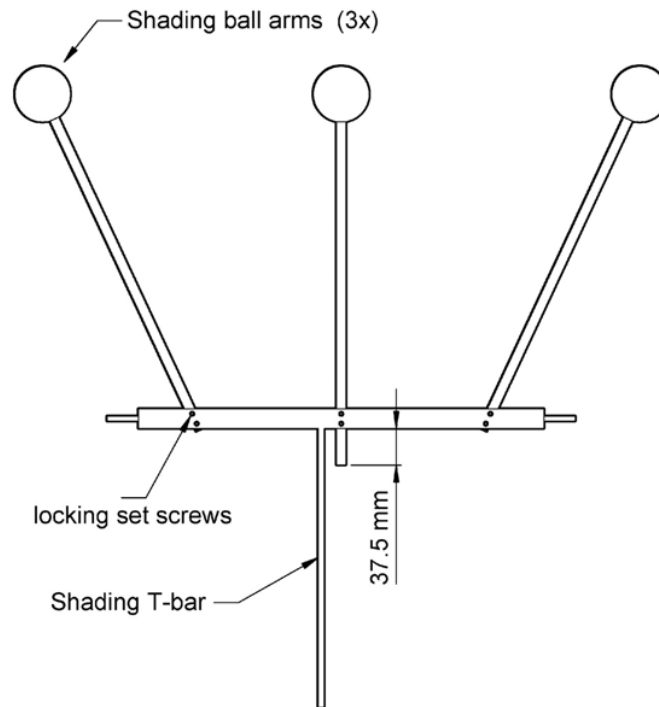

Figure 4.26: Shading Ball Rods Installation
- Install the Shading Ball Rods by sliding them into the designated holes. See figure 4.26 for preliminary positioning of the Ball Rods in the T-Bar. Fine-tuning of the Ball Rods must be done later in the setup after the Verification of Levelling Procedure. DO NOT OVERTIGHTEN the locking screws, it would make fine-tuning adjustments difficult later in the procedure.